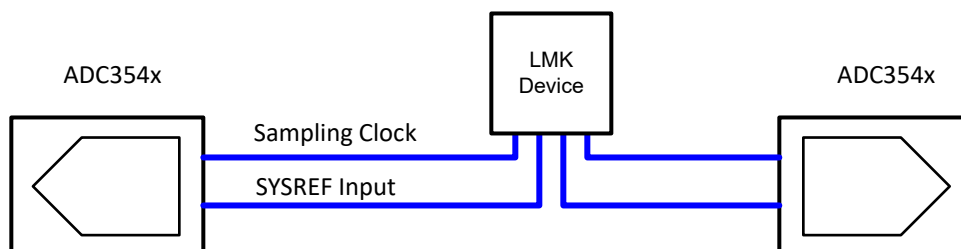

Figure 8-15. Synchronization example of 2 devices
- DDC mode: Internal blocks related to the decimation filter (clock dividers, NCO phase, and so on) are reset to a deterministic state using the SYSREF signal. External multi-chip synchronization is accomplished by matching both clock and SYSREF signal traces (blue lines) across devices as shown in Figure 8-15.